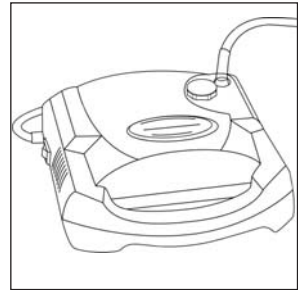

Figure 2
3. Place compressor so that the rubber feet are resting on a level, sturdy surface (**Fig. 2**) and upon which the controls can be easily reached when seated. Never block the air openings of the product or place it on a soft surface, such as a patient’s lap or a bed or couch where the air openings may be blocked.
6. Connect one end of the nebulizer tubing to the compressor air-outlet connector (**Fig. 2**).